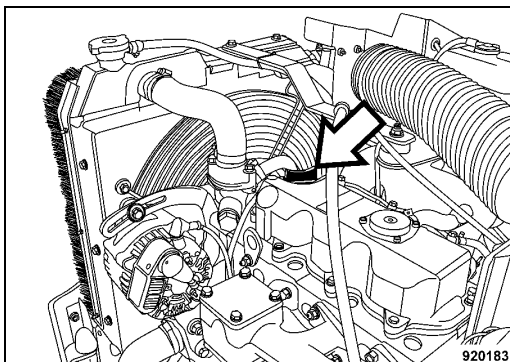

Fig. 133
- Unscrew the oil filler plug (Fig. 133).